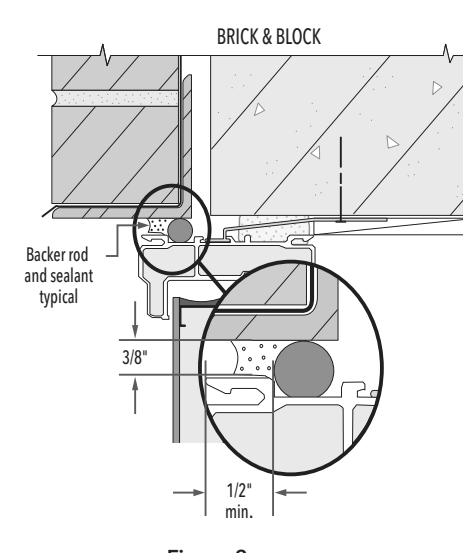
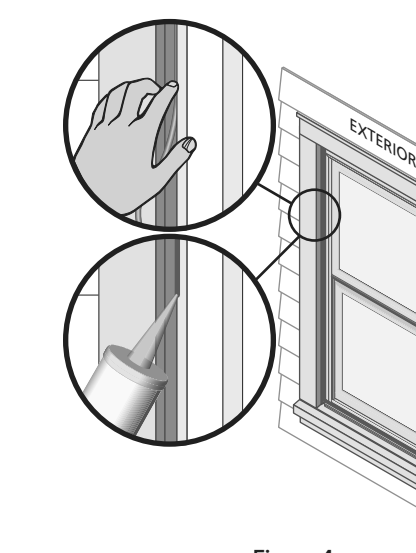

Figure 1
Figure 2
- If the space between the new window frame and the opening is greater than 1/4", go to step (B). If less than 1/4" or if the frame does not project past an exterior stop (Figure 1), skip to step (C).
- Apply a continuous bead of sealant where the new frame contacts the exterior stop (Figure 1) or between the frame and the opening (Figures 2, 3 and 4). Continue the seal across the bottom of the sill adapter (if applicable). Do not block weep holes or weep hoods with sealant.